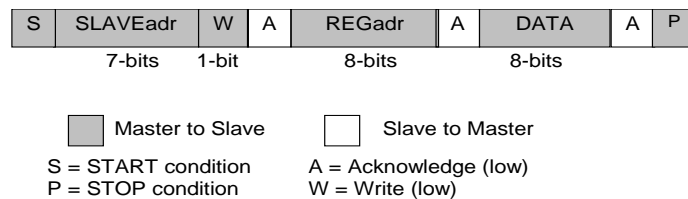
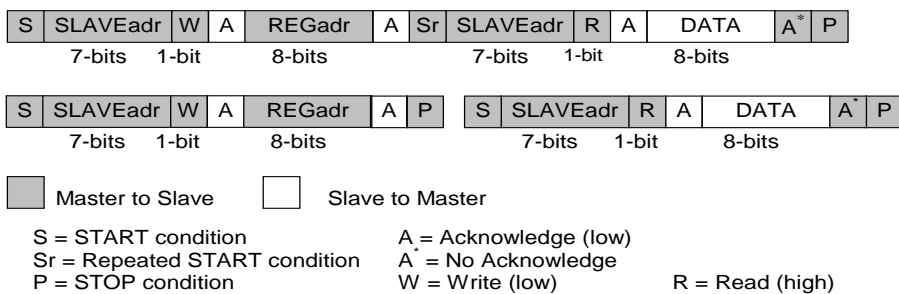

Figure 22: I2C Byte Write (SDA Line)
Figure 23: I2C Byte Read (SDA Line) Examples
The I2C bus is monitored for a valid slave address whenever the interface is enabled. It responds immediately when it receives its own slave address. The acknowledge is done by pulling the SDA line low during the following clock cycle (white blocks marked with A in Figure 22 and Figure 23).
The protocol for a register write from master to slave consists of a START condition, a slave address with read/write bit, and the eight-bit register address followed by eight bits of data, terminated by a STOP condition. DA9220 responds to all bytes with acknowledge (A), see Figure 22.
When the host reads data from a register it first has to write to DA9220 with the target register address and then read from DA9220 with a repeated START, or alternatively a second START condition. After receiving the data, the host sends no acknowledge (A\*) and terminates the transmission with a STOP condition, see Figure 23.